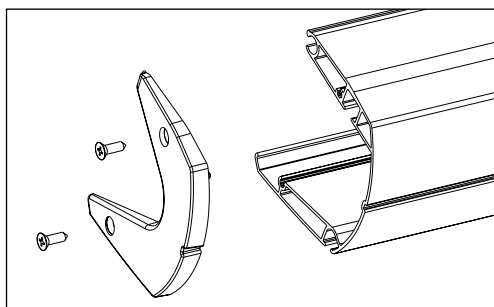

Fig. 4 : High extension pole TC130
3.8. The covers of the extension pole (see fig. 4)